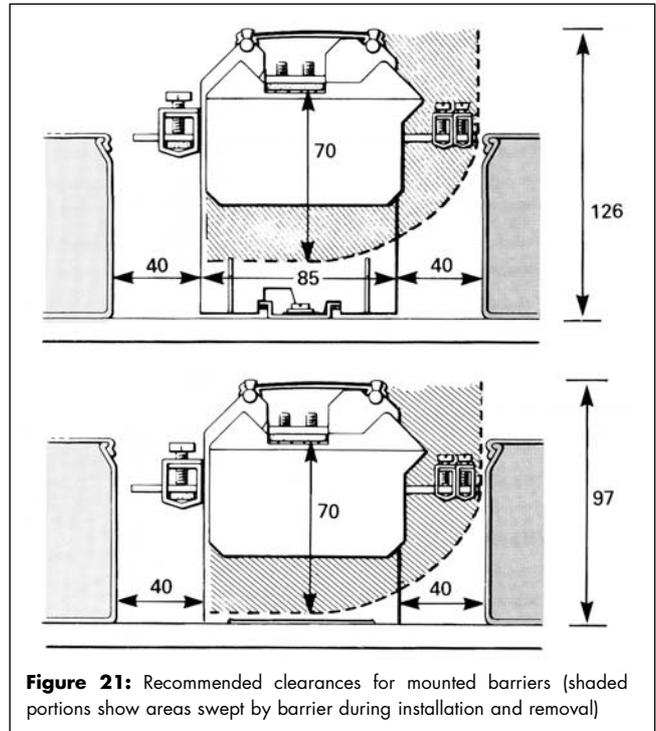

Figure 21: Recommended clearances for mounted barriers (shaded portions show areas swept by barrier during installation and removal)
6.2.5 Mount the barriers on the busbar in the required positions, tightening all fixing studs using the TQS7 torque spanner, or a torque wrench set to 2.3Nm (20 lb.in.). Note that damage to the threads may occur if a higher torque than this is applied. Ensure all the barriers' hazardous-area terminals face the hazardous-area side. Where barriers are mounted in rows on parallel busbars, the barriers in alternate rows should be reversed to keep the hazardous and non-hazardous (safe) area terminals apart. Also ensure that there is sufficient clearance to allow their removal and replacement, as shown in figure 21.